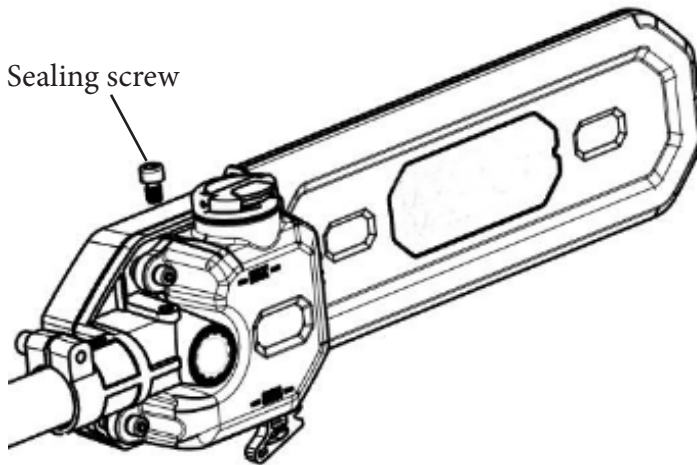

Fig.30
- Position the pole saw attachment on a firm, flat surface, so that the sealing screw is facing upwards (Fig. 30).